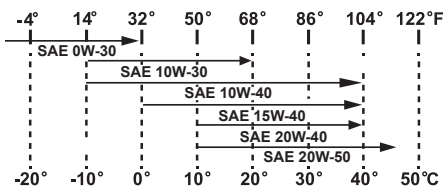

Figure 30
5. See Figure 30 for oil recommendations.